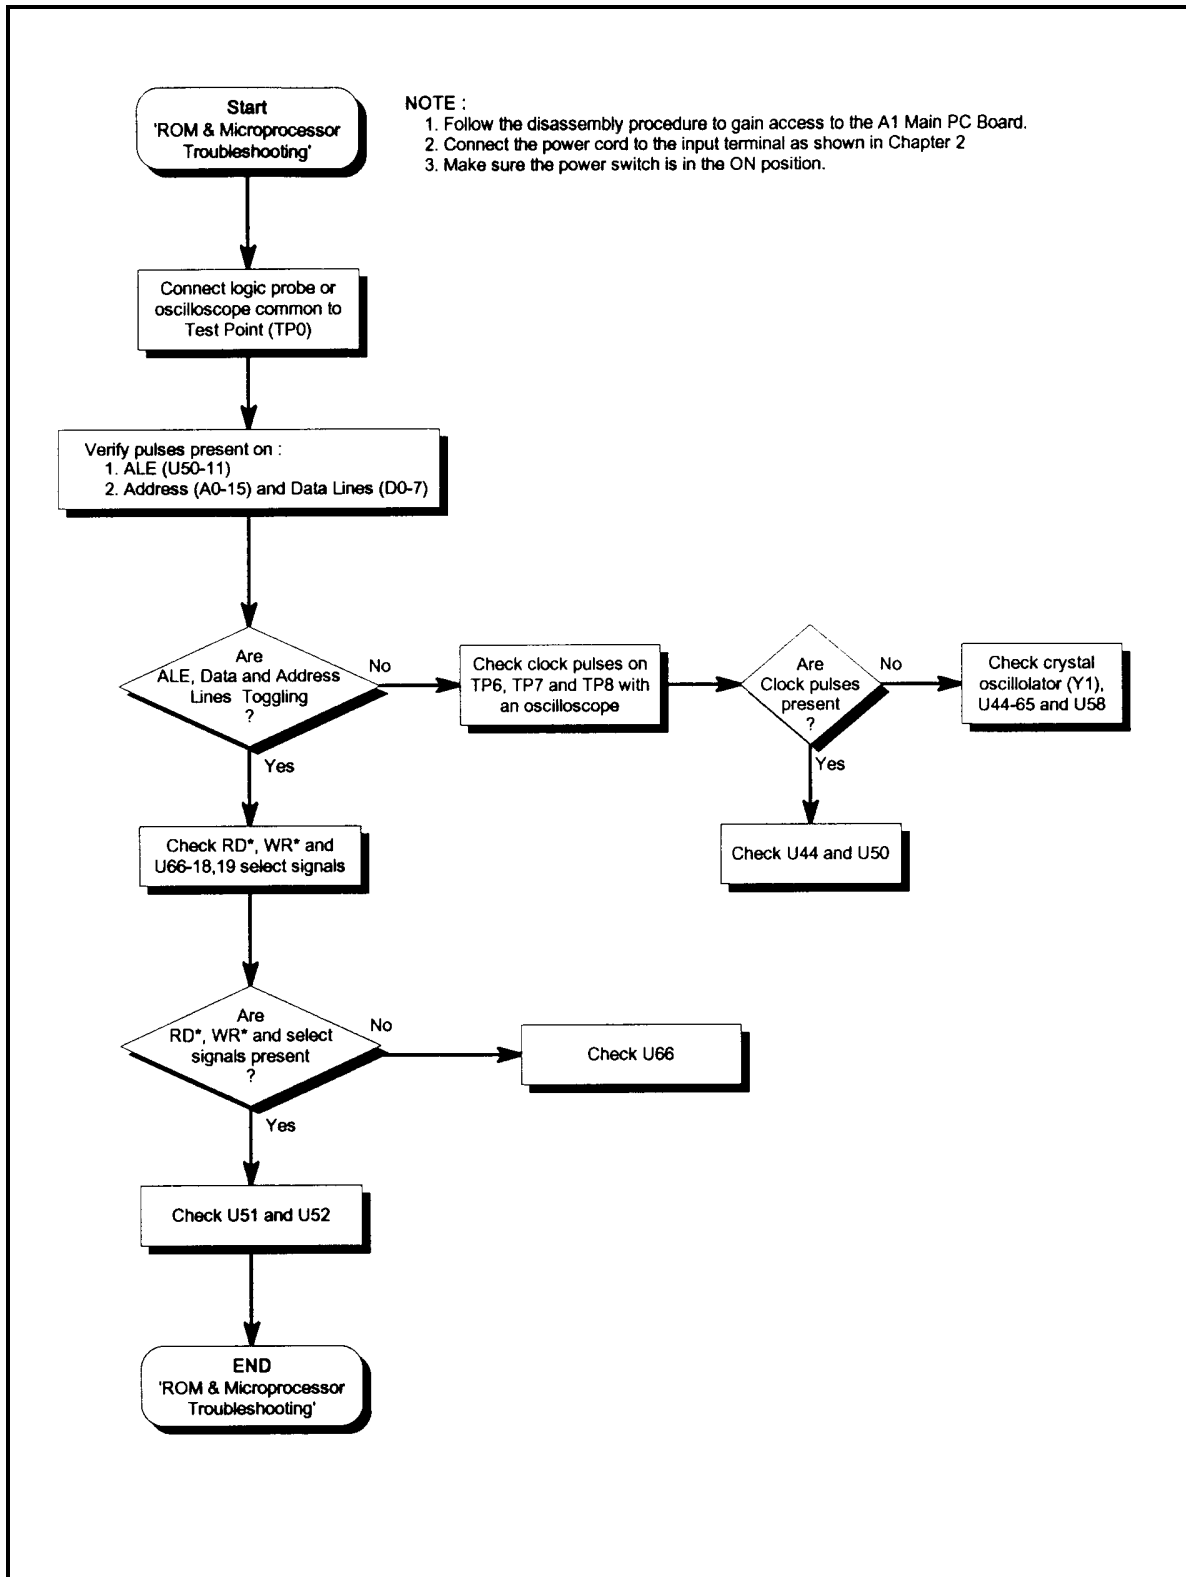

Figure 4-3. ROM & Microprocessor Troubleshooting
- Figure 4-3 - ROM & Microprocessor Troubleshooting